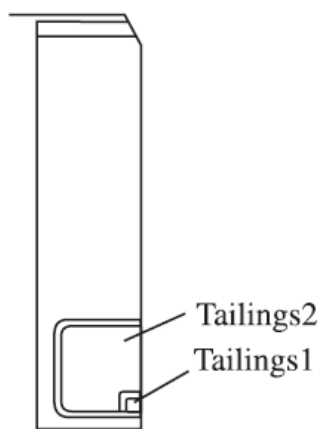
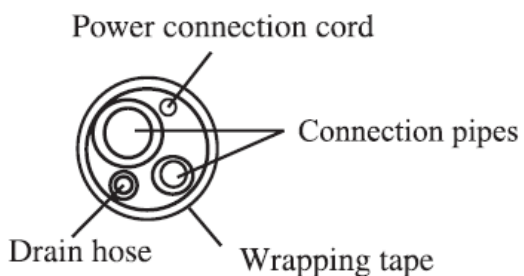

Fig.3
Fig.4
1. When routing the piping and wiring from the left or right side of the indoor unit, cut off the tailings from the chassis as necessary (shown in Fig.3).
- ① Cut off tailing 1 when only power cord is routed.
- ② Cut off tailing 1 and 2 when connect pipe and power cord are routed.
2. Wrap the piping and wiring and pull them through the cut-off tailings hole (shown in Fig.4).